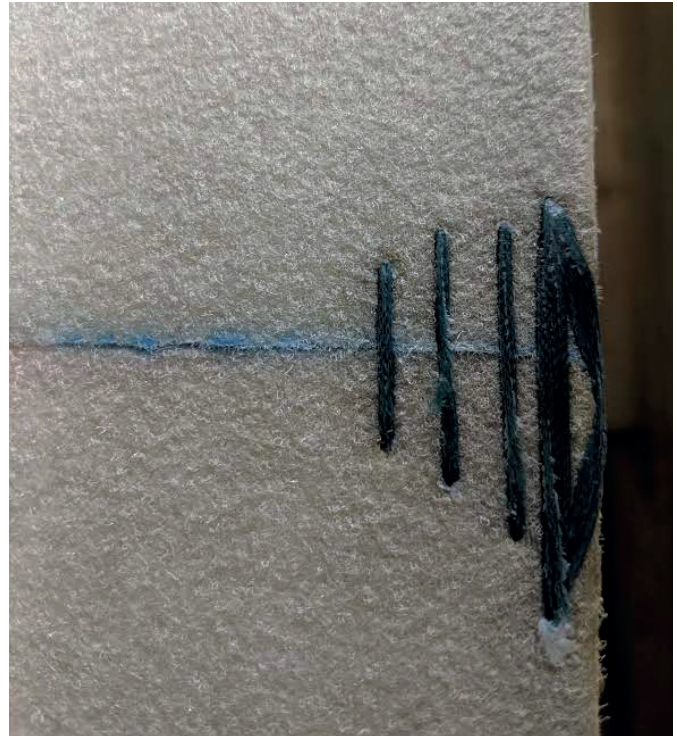

FIGURE 3.
- Sew the seam edges for reinforcement (figure 3 and 4).
- (Figure 3) Stitch the edges – whip around the seam 4 times from about an inch in and then cross over from the front to back side of felt as you sew over the edge of the seam, protecting the seam edge from bad paddles or the press frame.